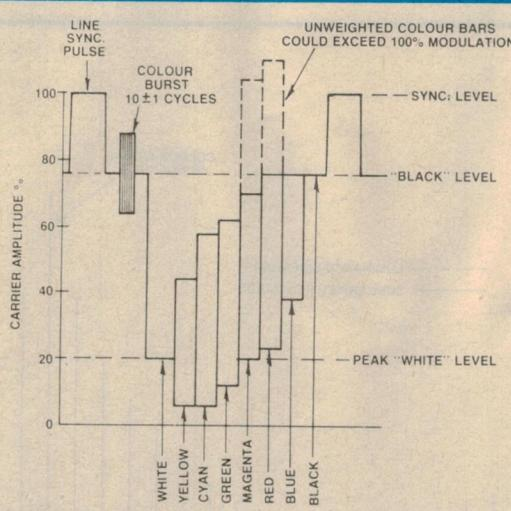

Fig.8: the video signal waveform generated by a standard colour bar chart. Note the colour burst signal on the back porch of the line sync pulse.
Notice that the signal at output (1) is 0.877 multiplied by the (R-Y) signal, and the signal at output (2) is 0.493 multiplied by (B-Y). This "weighting" of the colour signals is necessary to prevent overloading the transmitter. Without weighting, the peak colour signals would exceed 100% modulation and cause distortion (Fig.8). The weighted (R-Y) signal now becomes the PAL "V" signal, and the (B-Y) the "U" signal.
To enable the TV's local oscillator to do this, 10 cycles of 4.43 MHz colour "burst" information are sent with each line of signal information. This burst sits on the back porch of the line synchronisation pulse. Fig.8 shows one complete line of signal as the camera scans a standard colour bar chart.